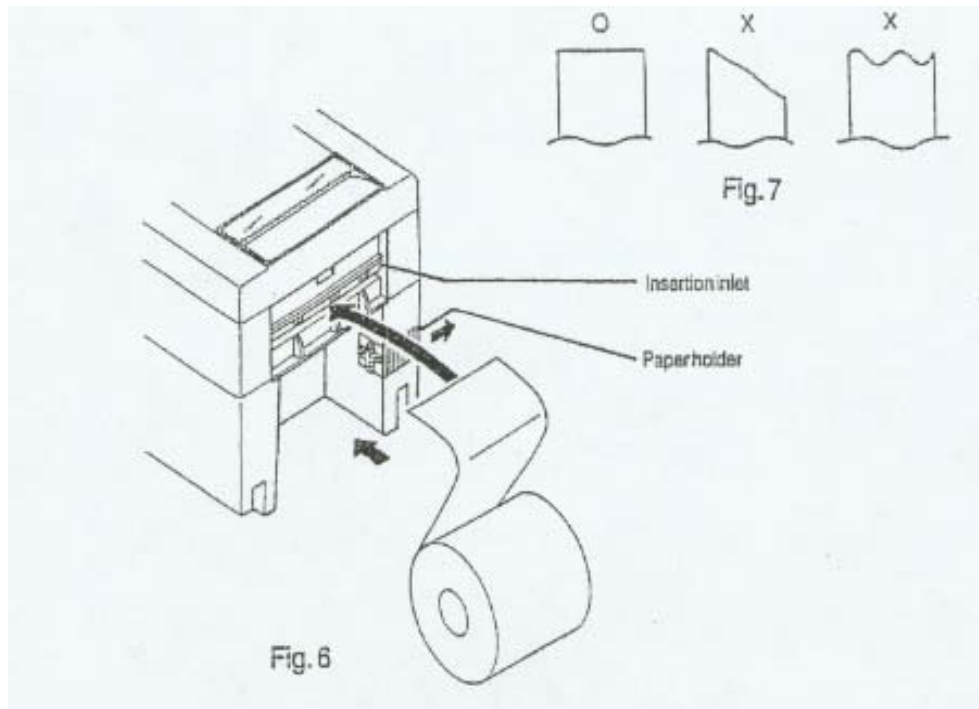

Figure 7. Loading the Printer Paper
1. Cut the paper at a right angle to its longitudinal centerline as shown in fig. 7.